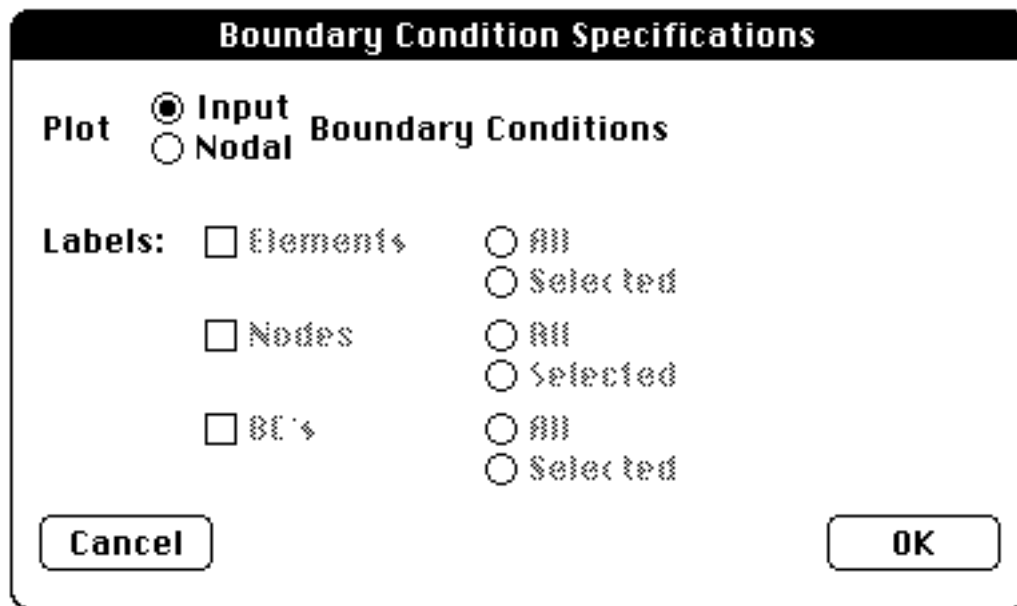

Fig 3.67 Boundary conditions type
You can plot the boundary conditions as entered as well as the computed nodal equivalent values (Fig 3.67).
- Choose Nodal Boundary Conditions (Fig 3.67) to produce the second plot in Fig 3.69.